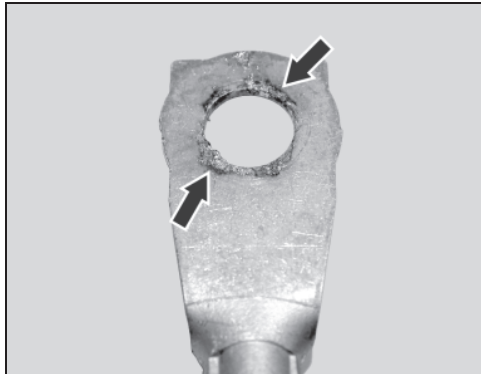

Figure 2 P-B-54.18/108
**i** **Note:** If the starter cable harness lug cannot be properly connected to the terminal point on the front prefuse box (F32) (outside part of passenger footwell), this may cause pitting of the contacts (Figure 2 & 3).